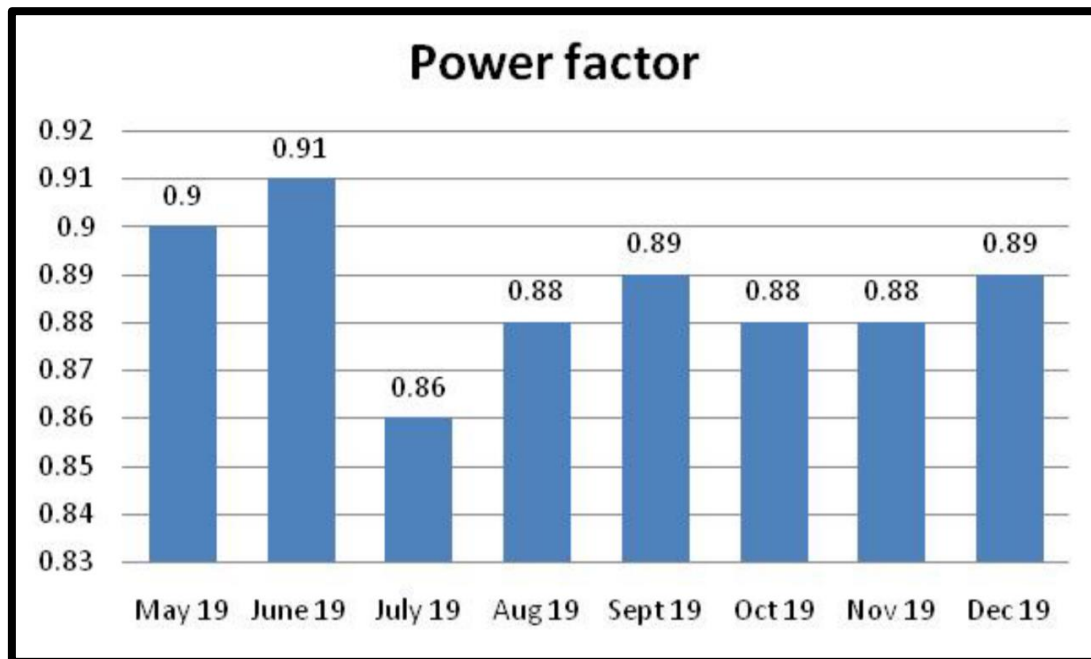

Figure 2. Power factor per month
- The PF is not being maintained above 0.9 which leads to penalty in most of the months (refer **Figure 2**). Automatic Power Factor Control Panels (APFC) can help maintaining the PF thus avoiding PF penalty and reducing losses. This will also improve kWh consumption.